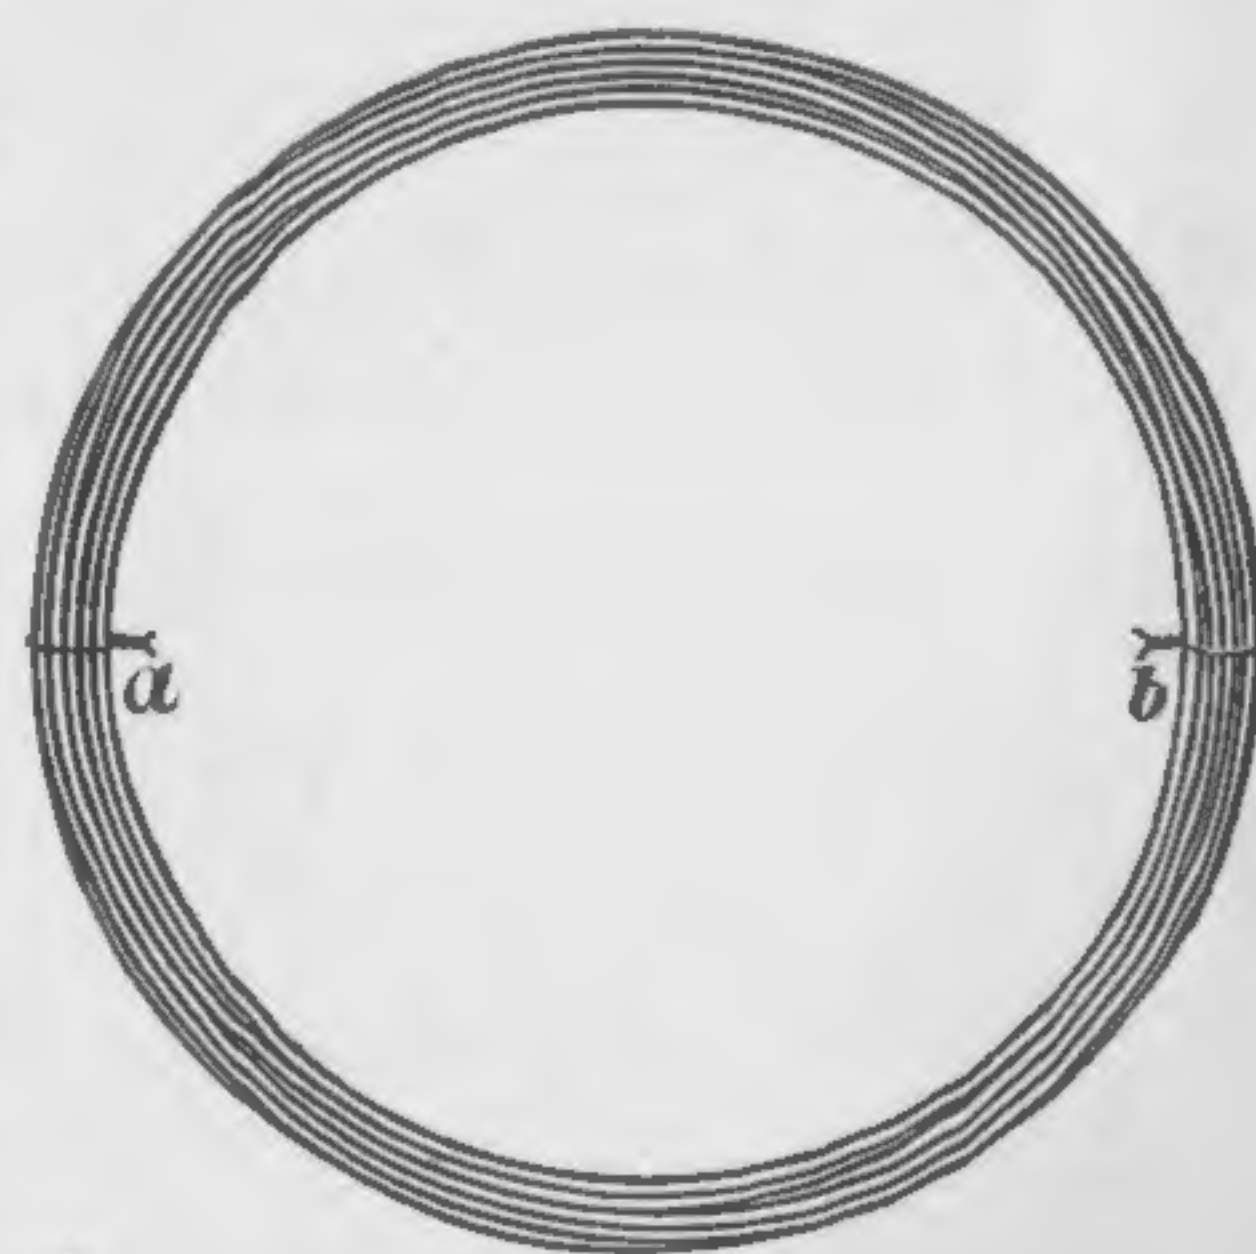

FIG. 3
10. **Lace wire, brace wire, edge wire, cable wire, and half-wound bonnet wire** are not spooled but are purchased in coils, bound at two places with tie wire, as shown at *a* and *b*, Fig. 3. When the wire is to be used, the coil is held tightly while the binding wires *a* and *b* are being removed, then hung over the clasped right and left hands, and given a number of complete swings by moving the hands rapidly in a small circle. This operation is known